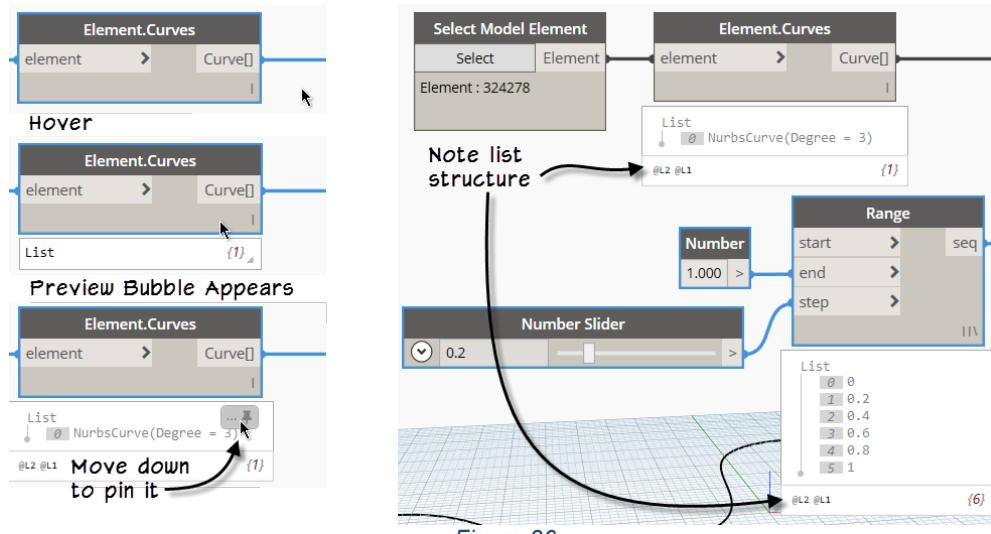

Figure 36
18. Repeat for the **Range** node (see Figure 36).